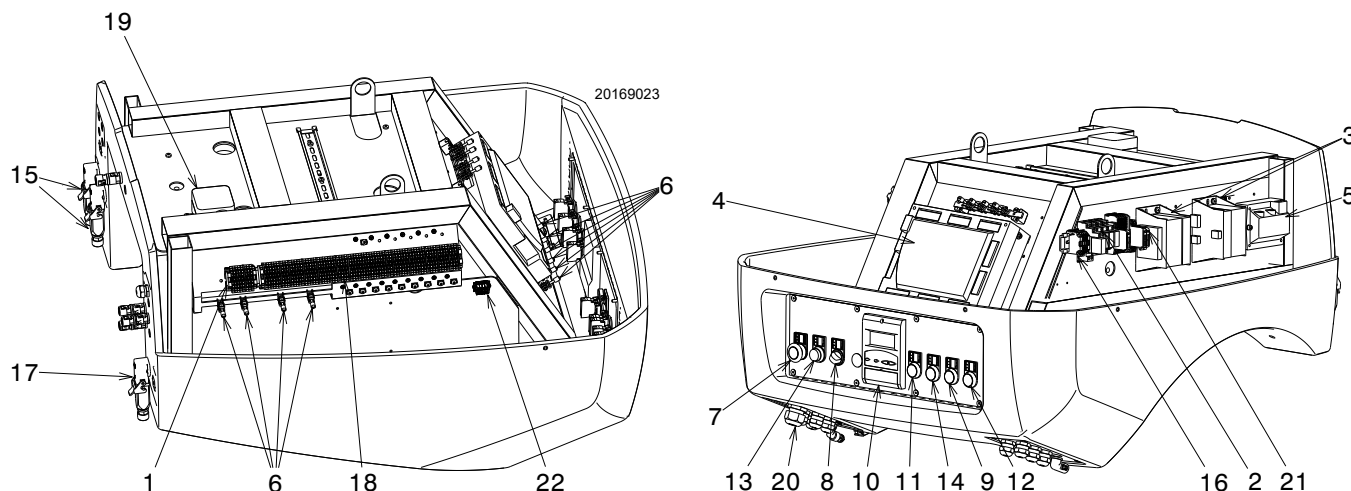

Fig. 5
- **Control box lockout:** if the pushbutton 13)(Fig. 5) (**red led**), it indicates that the burner is in lockout. release by pressing the pushbutton 13)(Fig. 5).